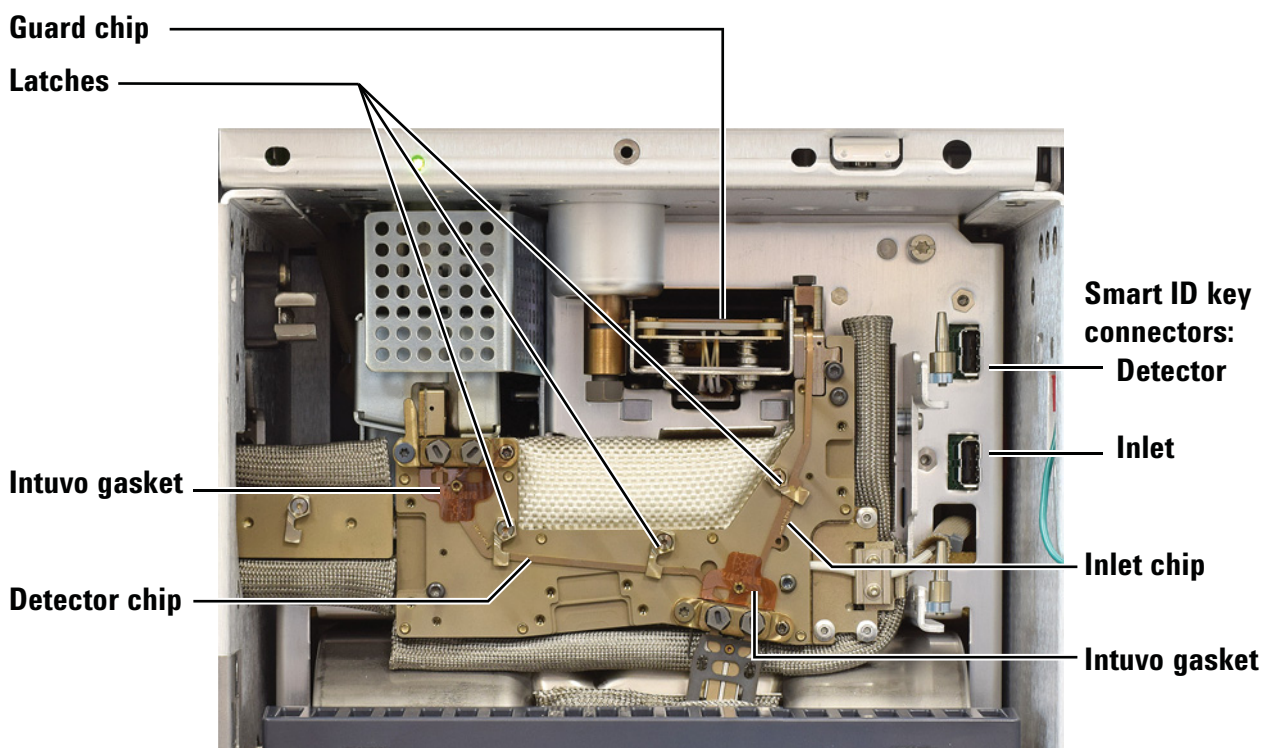

Figure 5 Intuvo bus components
Figure 5 shows the Intuvo major bus components.
- 11** Use a Torx driver to open the clips that hold the detector chip to the bus. See Figure 5.